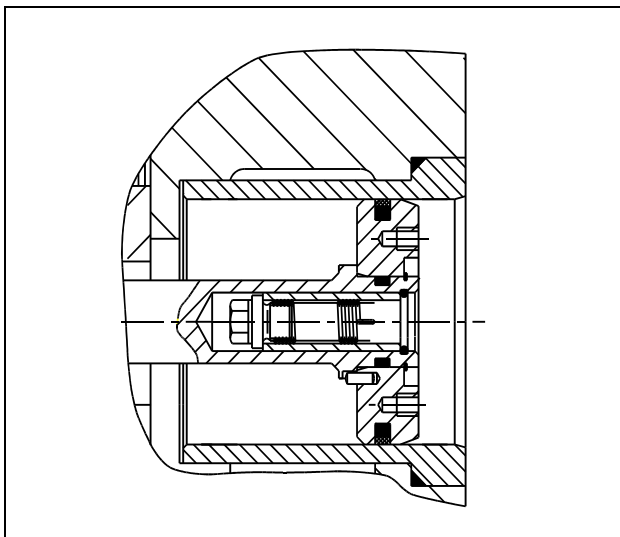

Figure 9: Position of the Vi piston in the Vi max. position
- Adjust the Vi slide with the piston to the Vi max. position by pulling the piston into the position as shown in figure 9.
- Insert the new O-ring (87) in the closure cover (90) and attach the latter.